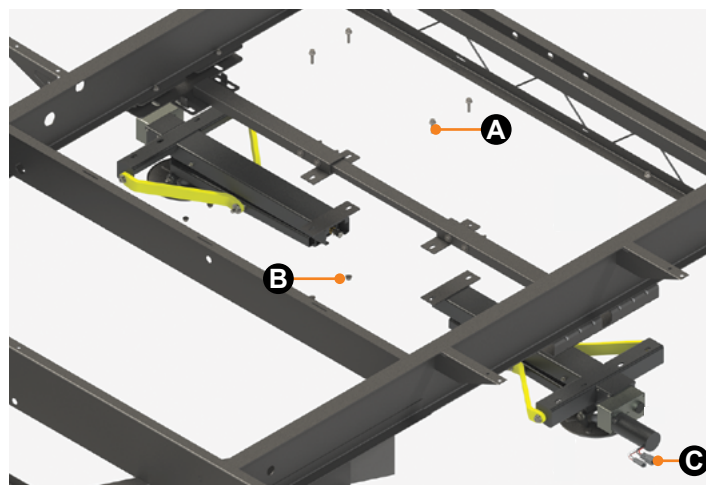

Fig.9
9. Reattach the foot pad to the jack leg by sliding the foot pad back over the bottom of the jack leg. Secure with the clevis pin and hairpin cotter pin, which were previously removed (**Fig.9**).